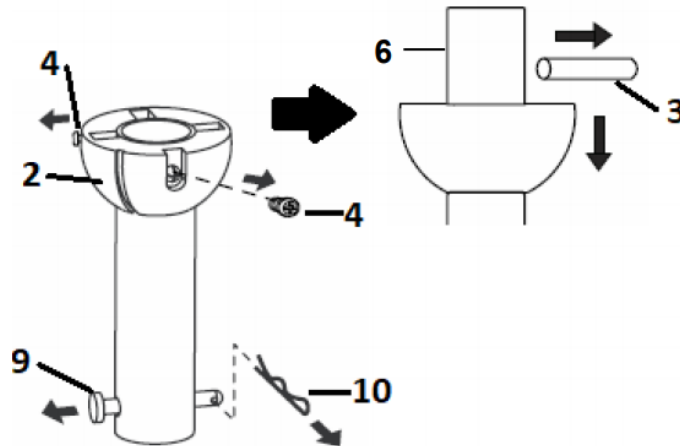

Fig. 4.1
1. Remove the ball joint (2) and dowel pin (3) by loosening the set screws (4) from the down rod (6). Remove the hitch pin (9) by removing the lock clip (10) (Fig. 4.1).